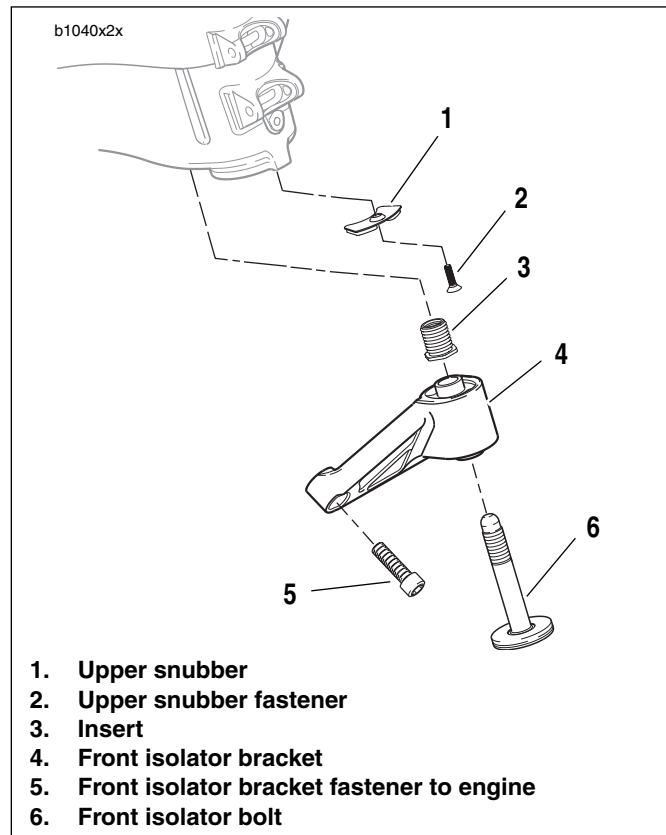

Figure 2-86. Front Isolator
3. See Figure 2-86. Remove front isolator bolt (6).
4. Remove front isolator mount fasteners (5).
5. Remove front isolator bracket (4).
6. Remove upper snubber fastener (2) and remove upper snubber (1).
1. See Figure 2-86. Install upper snubber (1) tightening snubber fastener (2) to 12-36 in-lbs (1-4 Nm).
3. See Figure 2-86. Use LOCTITE 272 on front isolator bracket (4) and install. Tightening fastener (5) to 49-51 ft-lb (66-69 Nm).
See Figure 2-86. If the threaded insert (3) is damaged and needs to be replaced, install new insert with LOCTITE 272 and tighten to 49-51 ft-Lbs (66.4-69.1 Nm).